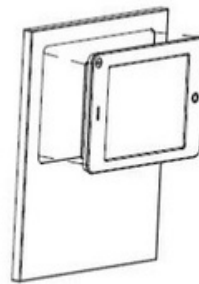

Figure 2
- Install Integrated Monitor Touch Pad on the panel as Figure 2 shows.